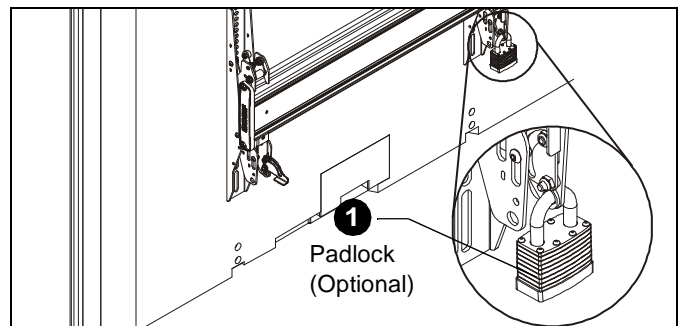

Figure 12
- Add padlock (not included) to each interface bracket to lock display to ceiling mount. (See Figure 12)